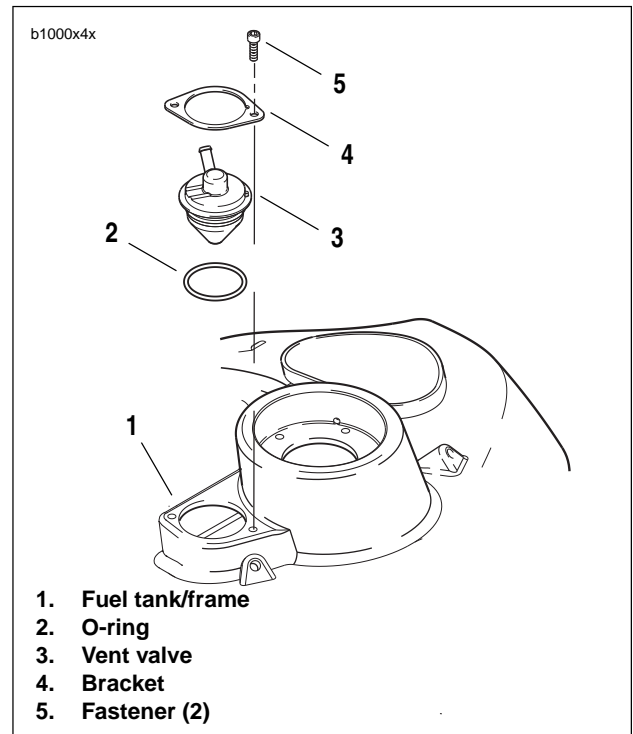

Figure 4-104. Fuel Tank Vent Valve
7. See Figure 4-104. Remove vent valve fasteners (5).
8. Remove bracket (4), vent valve (3) and o-ring (2) from fuel tank/frame (1).
1. See Figure 4-104. Install **new** vent valve o-ring (2).
2. Install vent valve (3) into fuel tank/frame. Vent valve nozzle should be at approximately the 7:00 position.
4. Loosely install vent valve fasteners (5).